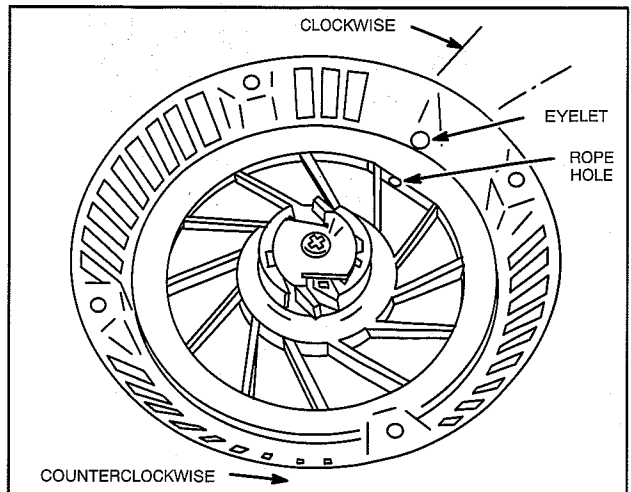

Fig. 5 - Winding Spring
Turn pulley COUNTERCLOCKWISE SIX (6) complete turns. Then rotate pulley clockwise until rope hole in pulley is in line with starter housing eyelet. Hold pulley in this position, Fig. 5.
Turn pulley COUNTERCLOCKWISE until spring is WOUND TIGHT. Then rotate pulley clockwise until rope hole in pulley is in line with starter housing eyelet. Hold pulley in this position, Fig. 5.